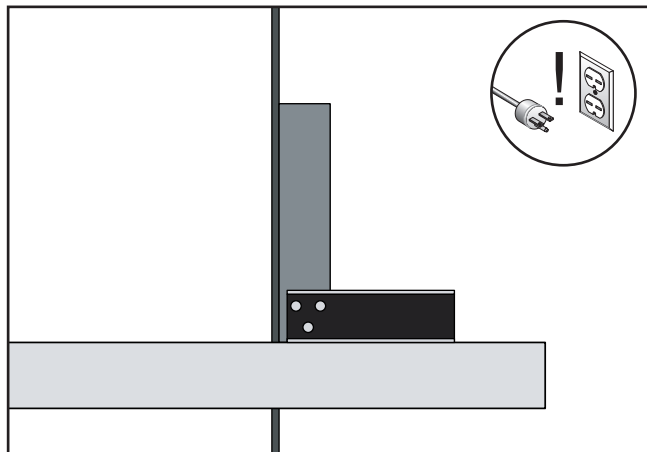

Figure 28. Squaring table to blade.
5. Raise the upper blade guide assembly and place a 6" machinist's square or try-square on the table next to the side of the blade, as illustrated in **Figure 28**. Adjust the positive stop bolt to raise or lower the table until the table is 90° to the blade.